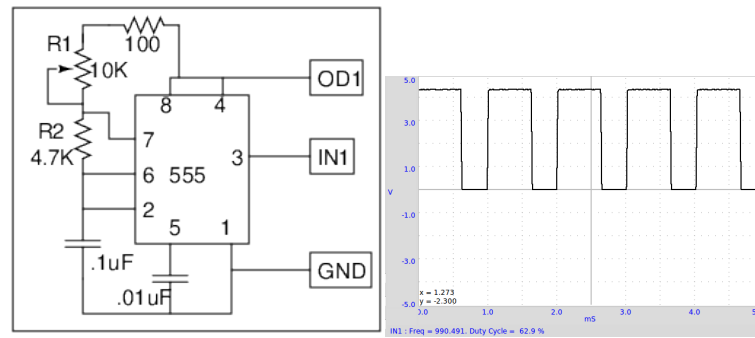

Figure 4.7: IC555 astable multi-vibrator. (a) schematic (b) Output waveform
**Objective** Make an astable multivibrator using IC555 and measure its frequency and duty cycle. Circuit is shown in figure 4.7(a). The 5 volt supply for IC555 is taken from OD1, by setting it HIGH. The frequency is given by  $f = 1/(\ln 2 \times C \times (R_1 + 2R_2))$ . The HIGH time is given by  $\ln 2 \times C \times (R_1 + R_2)$  and LOW time by  $\ln 2 \times C \times R_2$ .
**Observation** The output waveform is shown in figure 4.7(b). The HIGH and LOW times can be measured by using `r2time(3,3)` and `f2time(3,3)` functions.